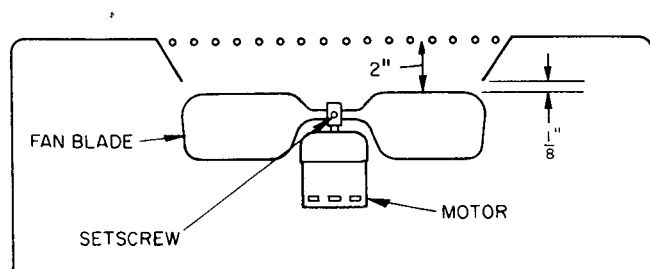

Fig. 35 — Condenser Fan Position
**Outdoor Fan Position** — Required fan position is shown in Fig. 35. Adjust fan by loosening setscrew and moving fan blades up or down.